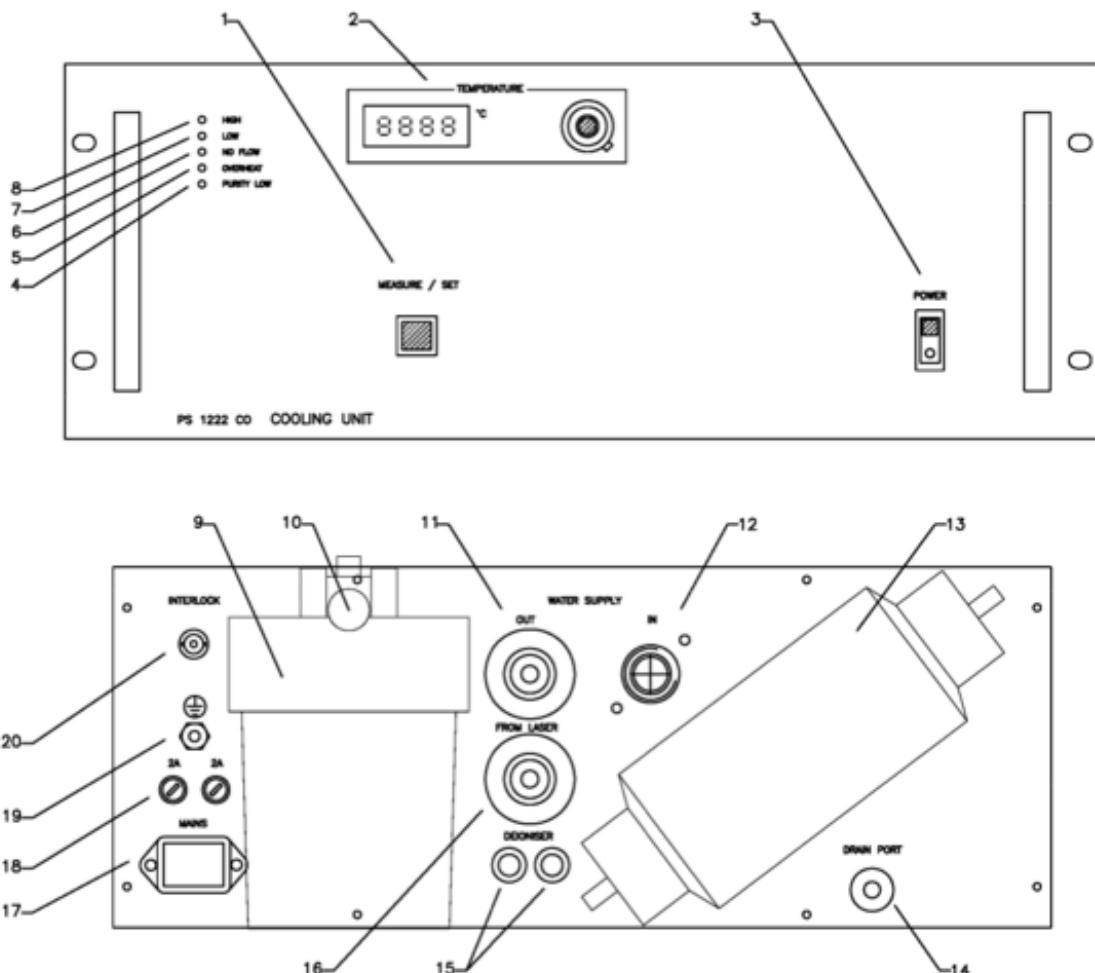

Figure 49 Cooling unit front and back panels
At the same time check if the resistor R1 (COR-5 220ohm) is not burned, also contacts of relays K1 and K2 have to be checked for them not to be stuck together. There's also a chance that a 'transfer' hole close to VD1 is burned (Figure 49). This should be visible. If not, continuity can be checked once rectifier is removed.
3. Open the *DRAINPORT* (14 in Figure 49) and remove water from the cooling unit. Close the *DRAINPORT*.